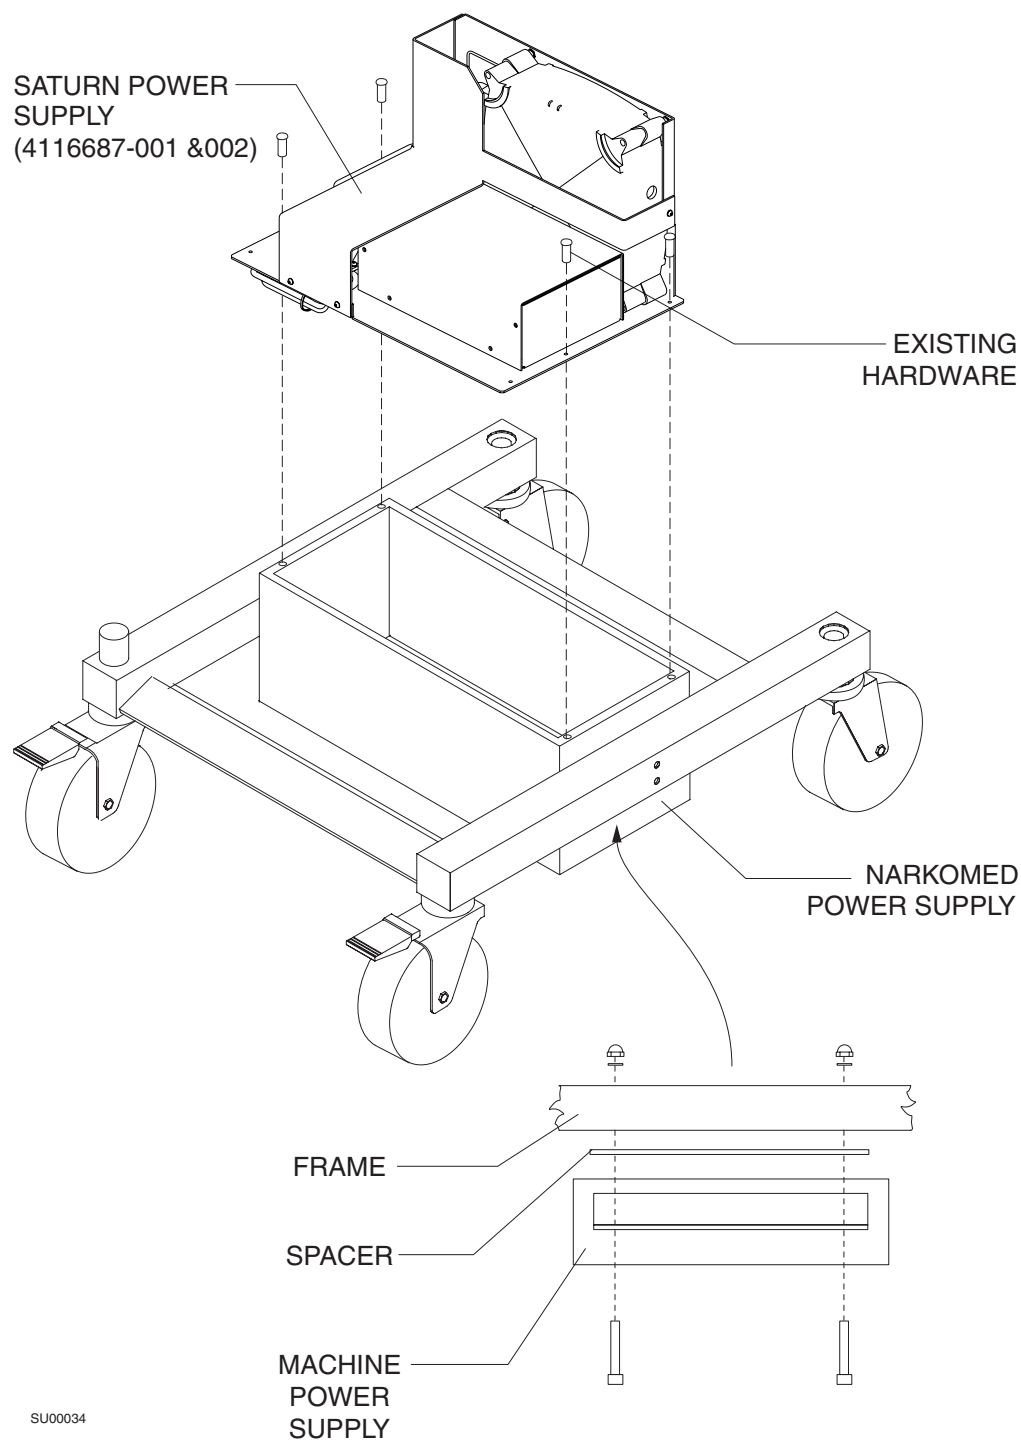

FIGURE 4. Existing Saturn Power Supply Mounting Configurations on Narkomed 4, 3, and 2C
5. Unscrew the four captive screws attaching the Saturn power supply to the machine power supply. Figure 4 illustrates the current Saturn power supply mounting configuration. Discard old power supply and hardware.